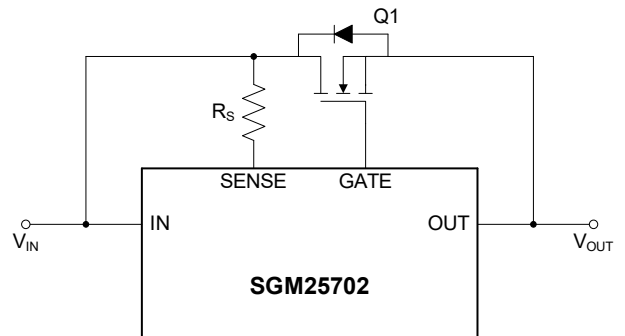

Figure 8. Setting the  $V_{DS}$  Threshold
- ◆  $R_{DSON}$  is the resistive drop of the pass element Q1 in Figure 8
As described in the section Over-Current Protection and Figure 8, the appropriate SENSE pin resistor  $R_s$  can be selected on the desired over-current threshold and  $R_{DS(ON)}$  of the external N-MOSFET.